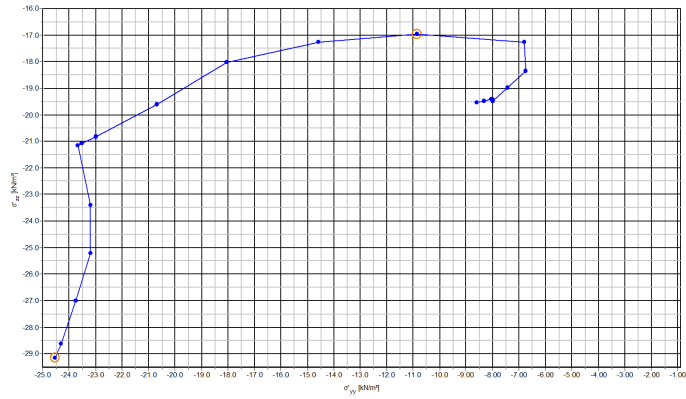

Figure 2.10 Vertical effective stress (σ'_{zz}) versus horizontal effective stress (σ'_{yy}) at stress node located near (37.5 19 -1.5)
- Click *OK* to confirm the input (Figure 2.10).